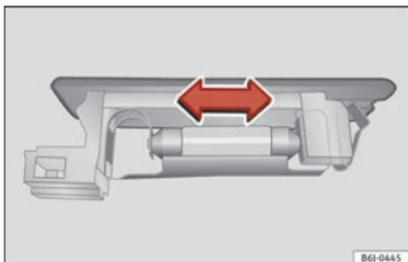

Fig. 119 Boot light.
- Press the bulb sideways and remove it from its housing »» **Fig. 119**.